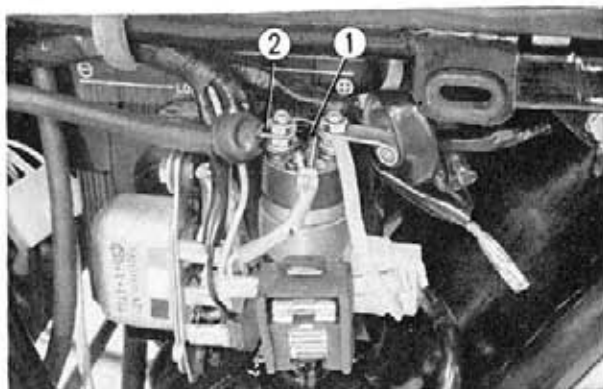

Fig. 9-10 ① Magnetic switch
② Starting motor cable
1. Remove the left side cover, disconnect the electric lead to the magnetic switch and then remove the magnetic switch. (Fig. 9-10)